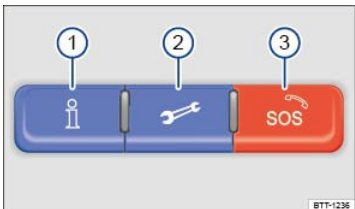

Fig. 186 In the roof console: 3-button module to access Volkswagen Car-Net service operators.
You can access Volkswagen Car-Net Security and Service via your Volkswagen Car-Net iPhone® or Android® app (text and data rates apply) and the Volkswagen Car-Net Security and Service website (<http://www.vw.com/carnet>). If you have a question or would like to subscribe, please either press the ⇒ *Fig. 186*  button in
The Manual Emergency Call service and all other Volkswagen Car-Net[®] Security and Service features require a trial or paid subscription. To begin your trial or paid subscription, authentication and activation are required. For more information, please visit the website (<http://www.vw.com/carnet>), press the ⇒ Fig. 186① button in the 3-button module in your vehicle or contact the Volkswagen Car-Net Response Center at 1-877-820-2290.
⇒ Fig. 186